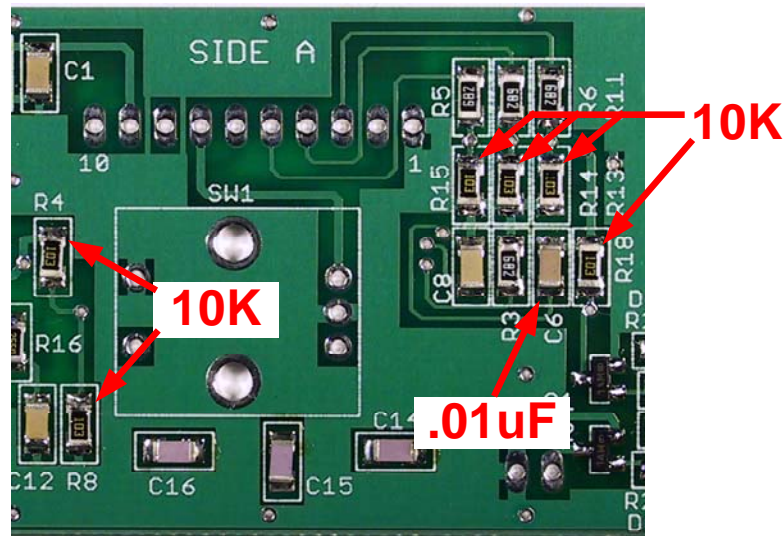

Figure 10. C6, 10K Resistor Locations
- ☐ Remove one of the 0.01uF capacitors from Bag 1, save the other for Side B. The part is unmarked. Install it at C6, as shown in **Figure 10**.
- ☐ Remove the strip of 10K resistors from Bag 2. These are marked 103. Refer to **Figure 10**. Install them at: